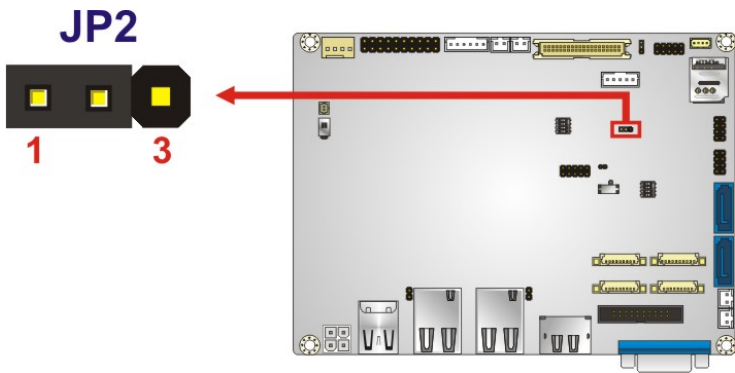

Figure 4-14: LVDS Voltage Select Jumper Location
- Jumper Location:**See Figure 4-14